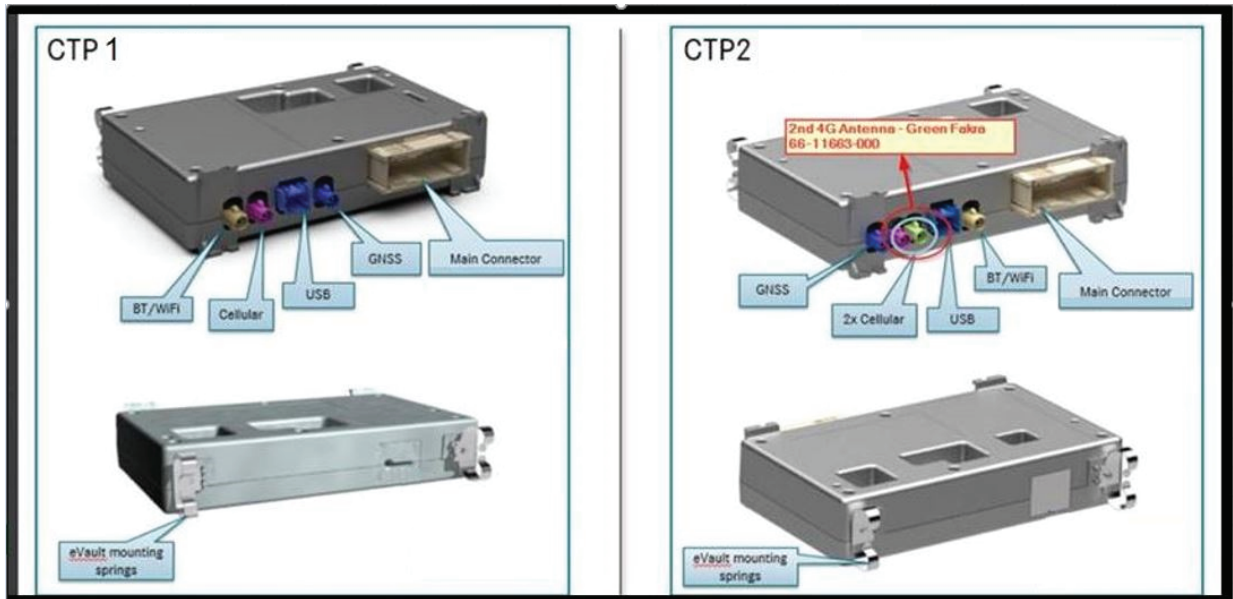

Figure 2 CTP1 vs CTP2
Figure 2 identifies the CTP1 vs CTP2 connection locations.
Table 1 refer to the CTP2 image in figure 2 for connections locations.
11. Once all Antenna(s) being replaced / installed, are mounted correctly and cabling routed and fastened in place, Connect each of the antenna ends to the CTP2 using Figure 2 as an aid. Each of the antennas has a different color connector end that will match the color on the CTP2. Color ends aid in making sure each antenna is attached correctly to the CTP2.